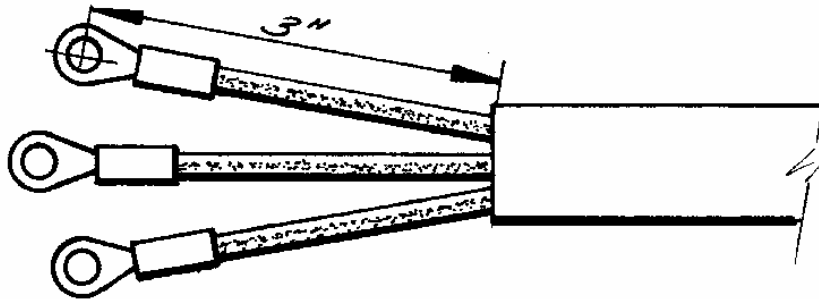
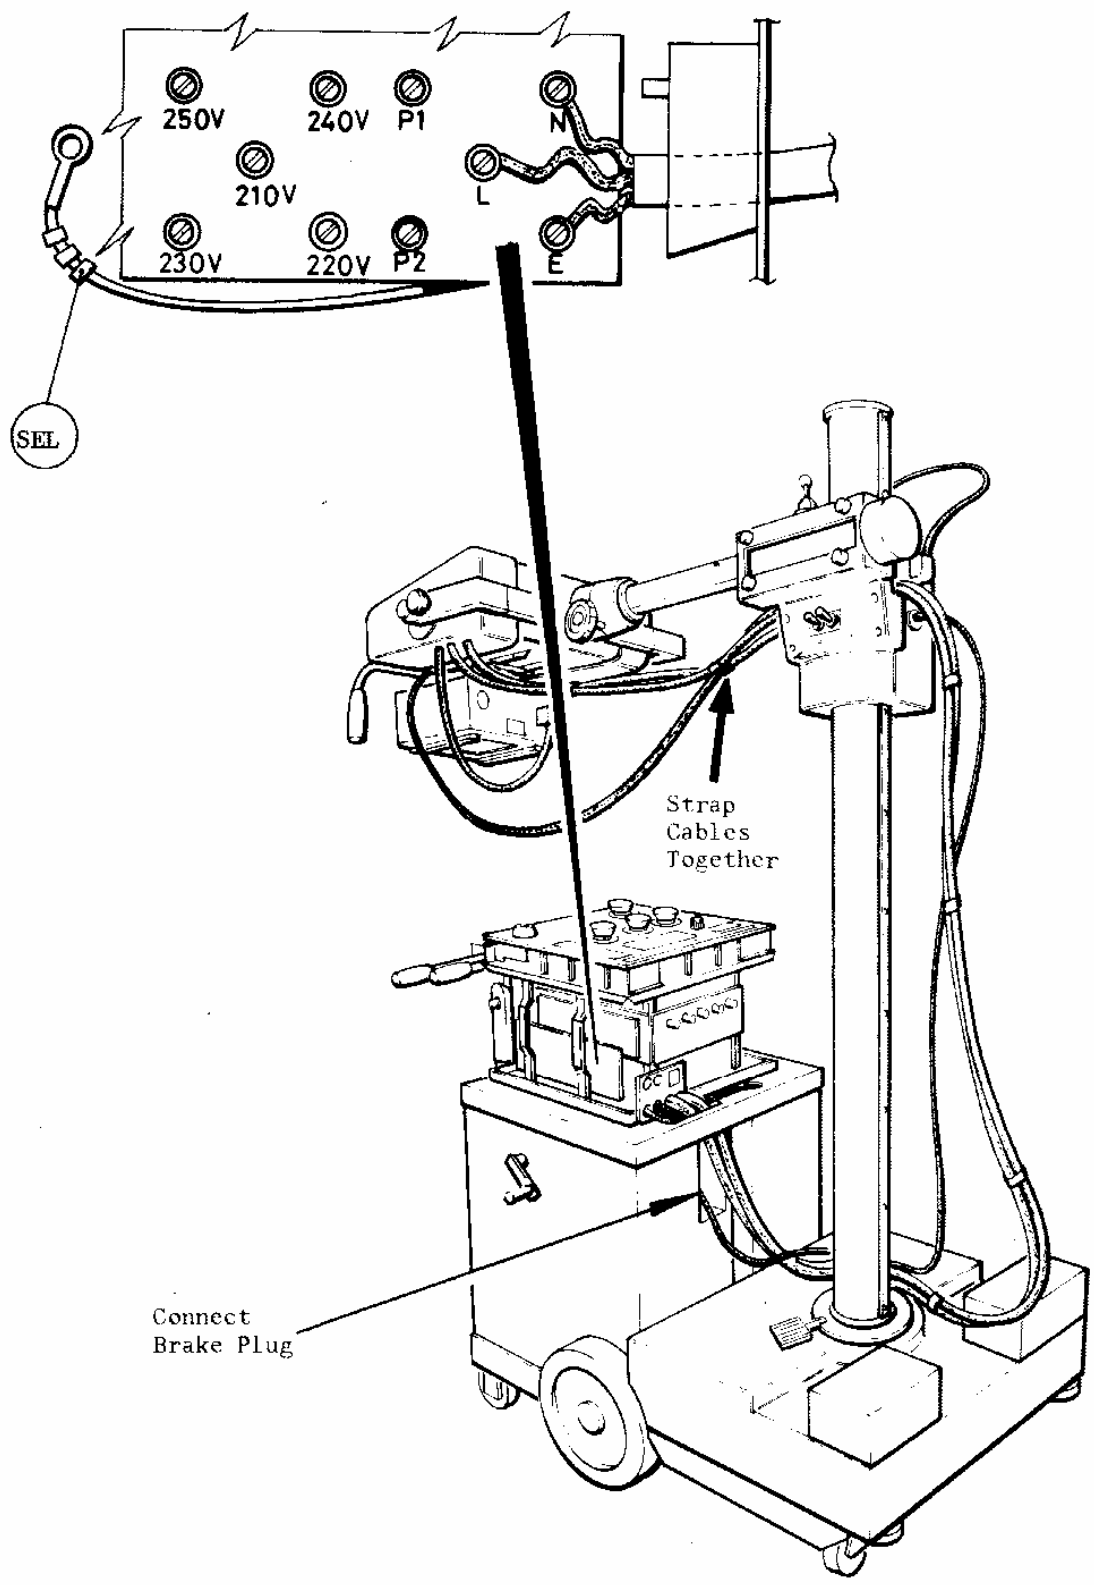

Fig 21 Preparing the Mains Cable
Fig 22 Connecting Mains Cable at Control
15. CONNECTING MAINS CABLE at CONTROL and BRAKE CABLE at BASE Fig 22
Loosen cable clamp and pass mains cable through the entry shown in Fig 22. Use the clamp as described in 11, page 22. The required state of the mains cable is shown in Fig 21 below.
Strap cables together as shown in Fig 22 using strapping, or lacing cord.